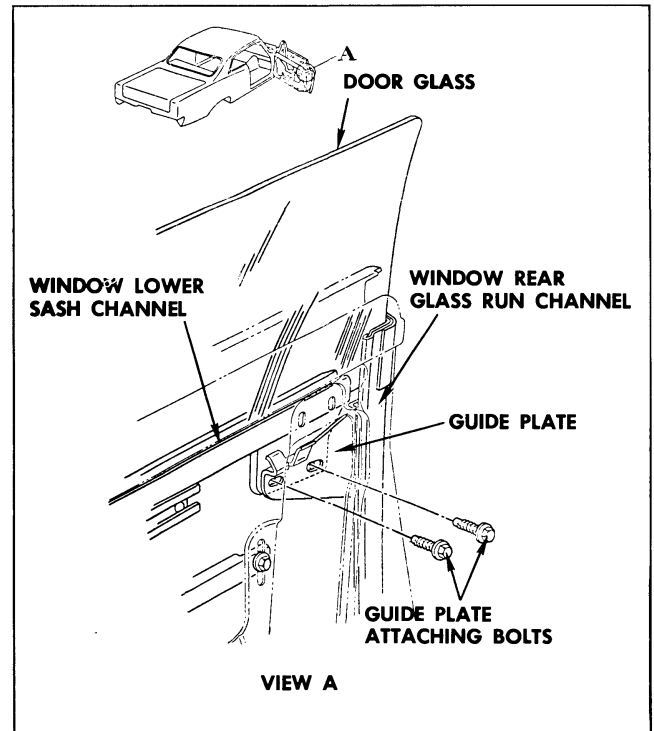

Fig. 12-20 Window Lower Sash Channel Guide Plate
3. Remove two bolts securing guide plate to lower sash channel and remove guide plate (Fig. 12-20).